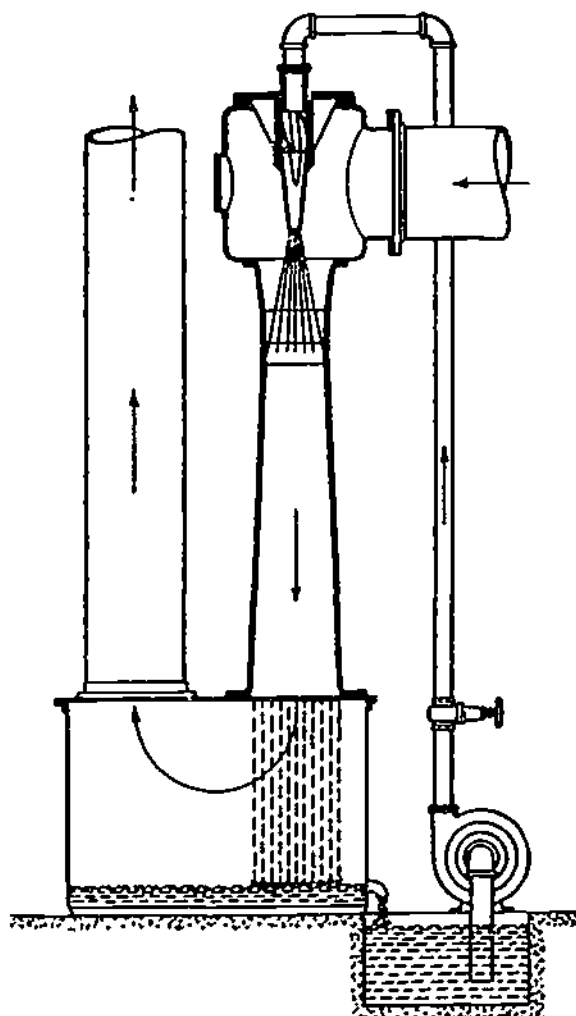

Figure 11-6. Water Jet Scrubber
**Spray Chambers** Gas is passed through a series of water sprays directed into the gas stream. Sets of zig-zag elimination plates are provided at the gas outlet, and often inserted between each set of sprays. The water jet scrubber illustrated in Figure 11-6 is a modified version of a spray chamber.